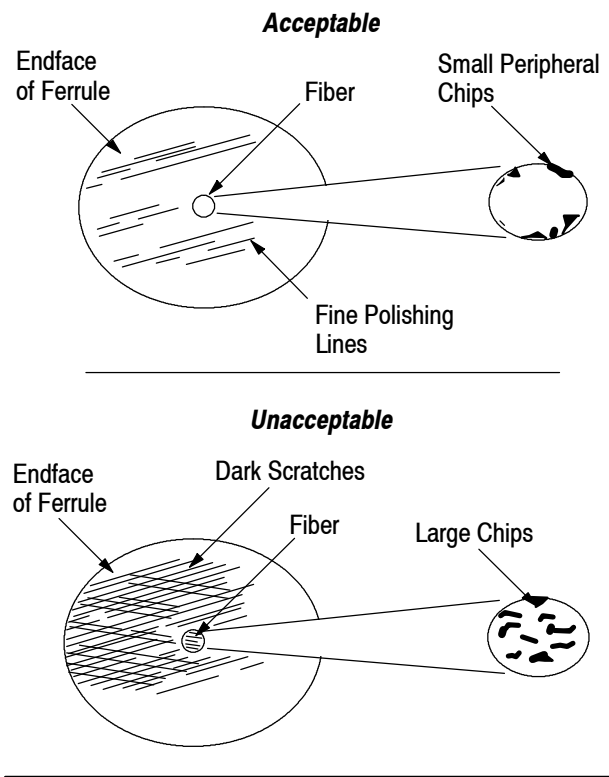

Figure 8
- Using the microscope (with the 1.25-mm adapter), inspect the ferrule and fiber according to the following criteria (refer to Figure 8):